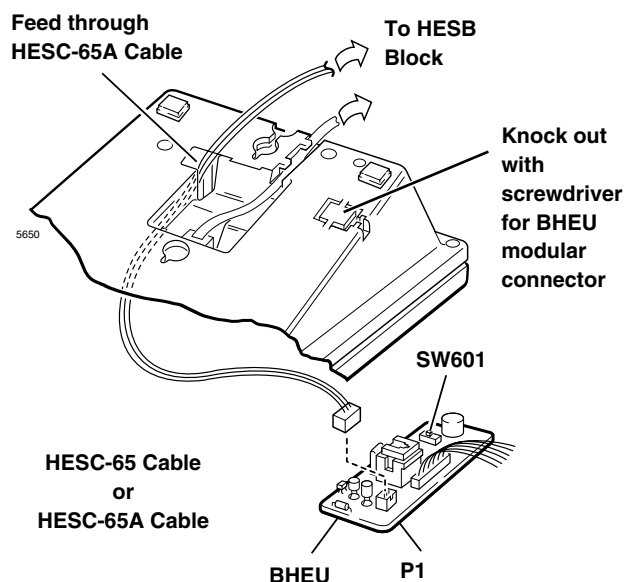

Figure 8-17 HESC-65A Cabling
3. Install a BHEU PCB and HESC-65A cable per Figures 8-17 and 8-18.
1. Loosen the four captive screws on the telephone base, and remove the base. Use a screwdriver or other suitable tool to remove the plastic tab on the back of the base. (The HESC-65 cable connector is accessed through this opening. See Figure 8-17.)
6. Connect the HESC-65A cable to the HESB (see Figure 8-17).